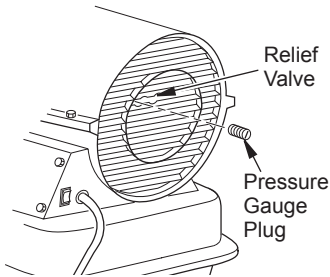

Figure 10 - Pressure Gauge Plug Removal
1. Remove pressure gauge plug from filter end cover (see Figure 10).